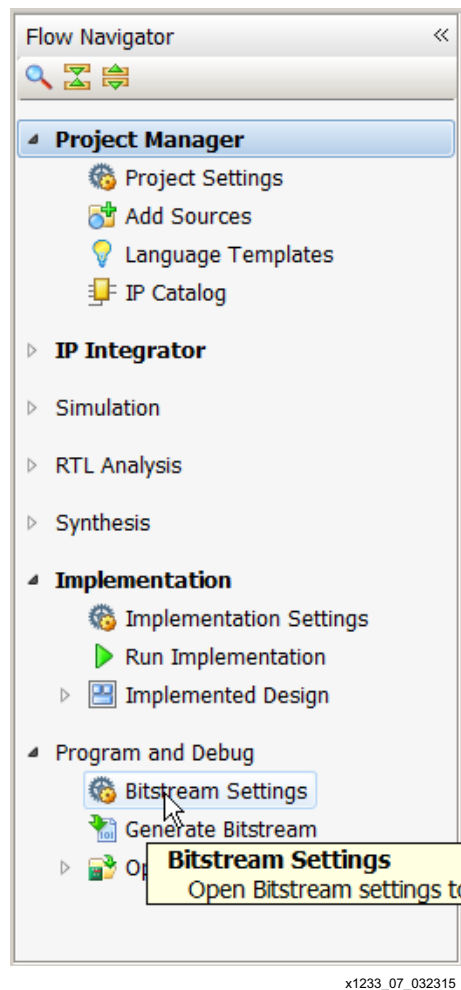

Figure 14: Flow Navigator
1. In the Flow Navigator, locate the Program and Debug tab and click the **Bitstream Settings** button as shown in Figure 14.